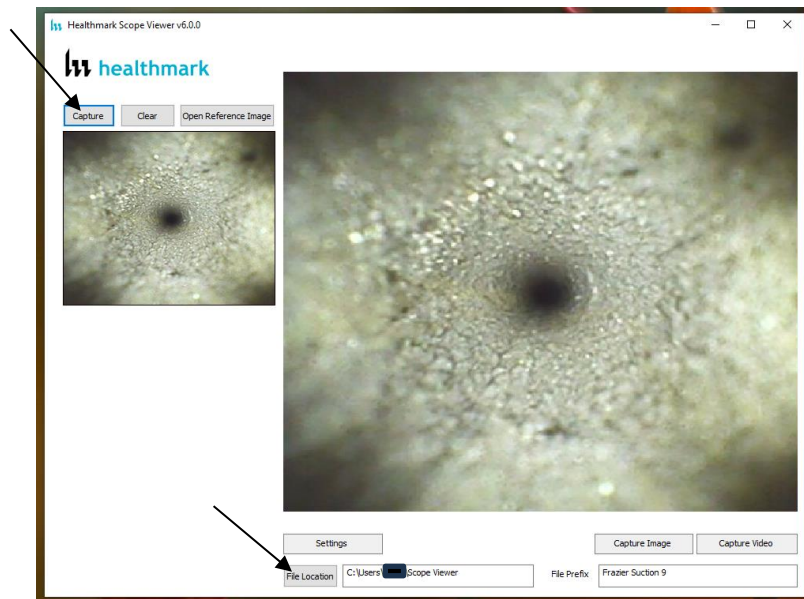

Figure 16
1. To display an image currently being displayed in the *Main Image Window*, click the *Capture* button. (Note: The images will be saved in a file folder titled **Reference Images** in the designated *File Location* specified in the *File Location* field.) (**Fig. 16**).
- a. Click the *Open Reference Image* button (**Fig. 16 above**).